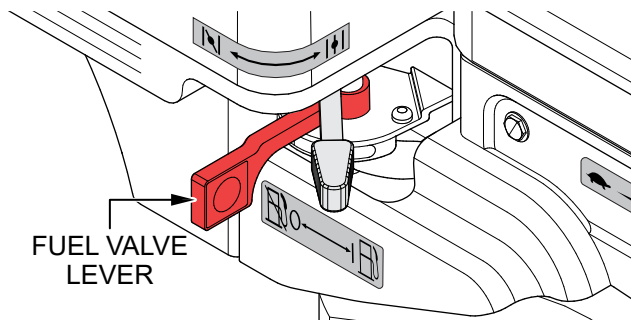

Figure 15. Engine Fuel Valve Lever (OFF)
2. After the engine has cooled, place the **fuel valve lever** in the **OFF** position (Figure 15).
Move the **engine fuel valve lever** quickly to the **OFF** position (Figure 15).